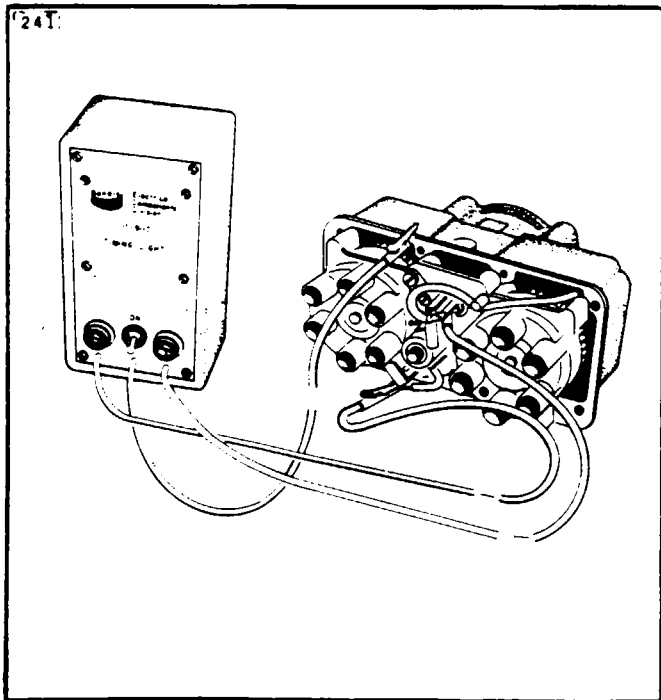

Figure 8-22. Timing Light Connected to Magneto and Breakers
- k. Connect the red timing light lead to the left breaker terminal and the green lead to the right main breaker terminal. (Refer to Figure 8-22.)